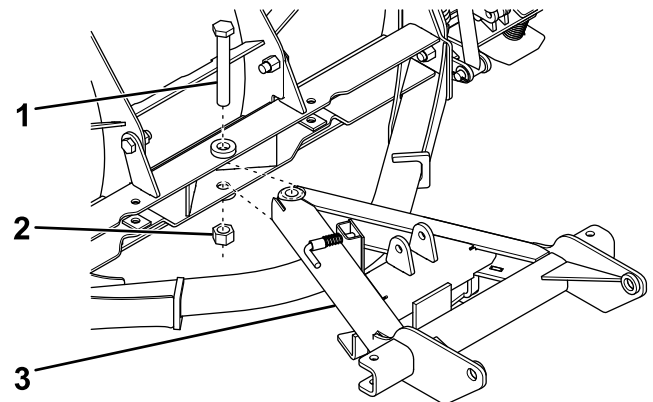

Figure 5
3. Attach the pushframe to the pushframe attachment bar using a bolt (1 inch) and locknut (Figure 5).